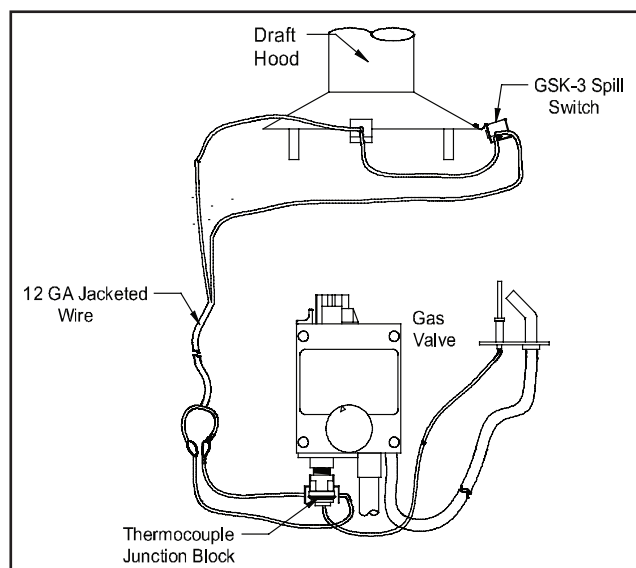

Figure 3
4. Connect the one terminal of each switch with 12 ga wire and then connect it to the thermocouple junction block. Next, connect the two remaining terminals together using a short length of 12 ga wire. (See Figure 3)